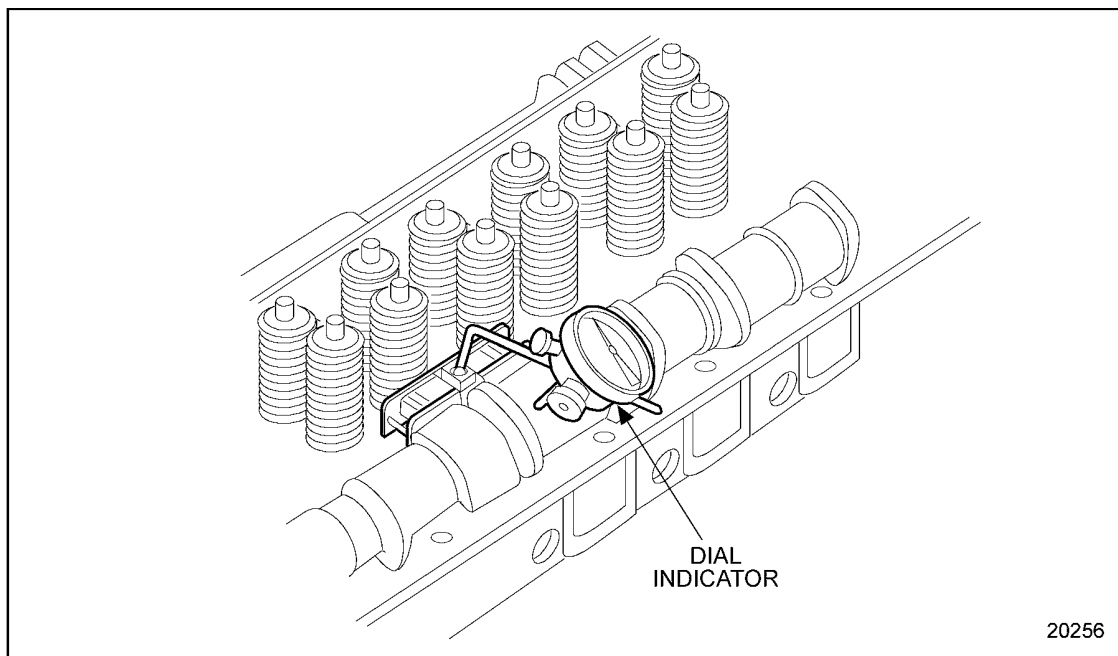

Figure 1-307 Camshaft Run-out
- [m] Using a dial indicator with magnetic base, check the run-out of the camshaft at the No. 3 bearing journal. See Figure 1-307.